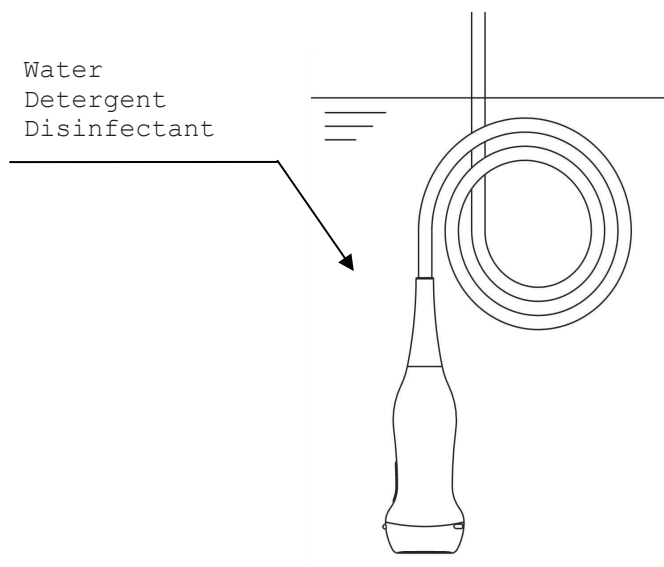

Fig. 3 Immersion of the Probe
- 2) Immerse the immersible part of the probe without connector into the diluted detergent solution (see Fig 3). Wipe the immersible part of the probe under the surface of the detergent solution with a soft cloth to remove all visible soil. Be sure that all grooves of the probe are implemented during the cleaning process.
- 5) Rinse the probe with running tap water for 1 minute. (alternatively: immerse the immersible part of the probe in a tray filled with deionized water/tap water (see Fig.3) for 5 min.)
- 3) Immerse the immersible part of the probe into the disinfectant (see Fig.3). Set a clock to insure the recommended contact time which is 5 minutes.
- 4) Rinse the immersible part of the probe with deionized water for 1 minute. (alternatively: immerse the immersible part of the probe in a tray filled with deionized water (see Fig. 3) for 5 min.)